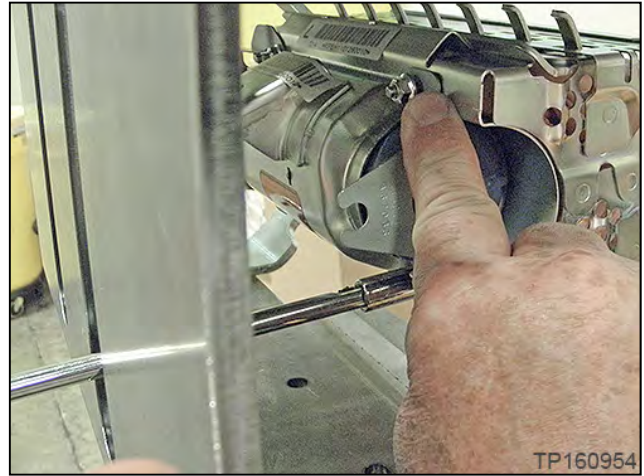
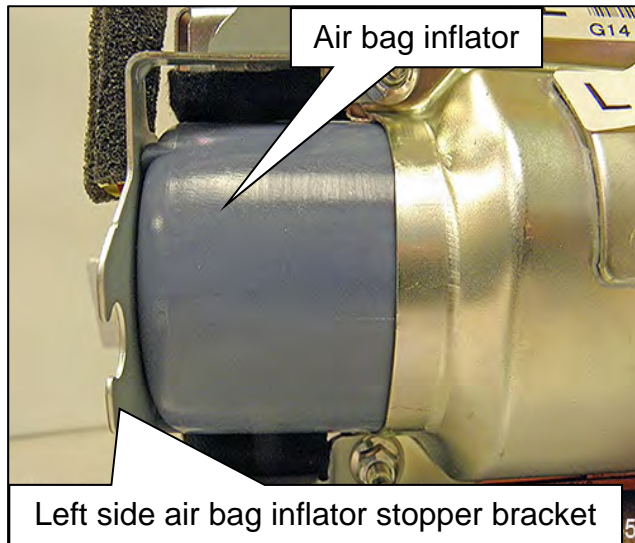
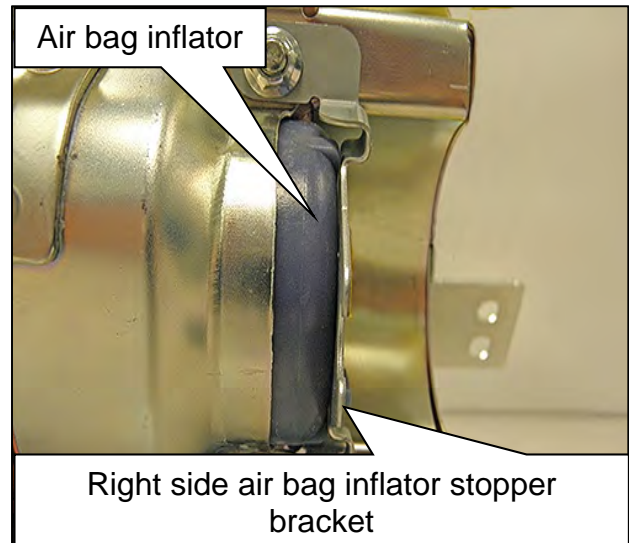

Figure 33
Figure 34
Figure 35
34. Push on the right side air bag inflator stopper bracket (Figure 33) to ensure the air bag inflator is sitting against the left side and right side air bag inflator stopping brackets (Figure 34 and Figure 35).